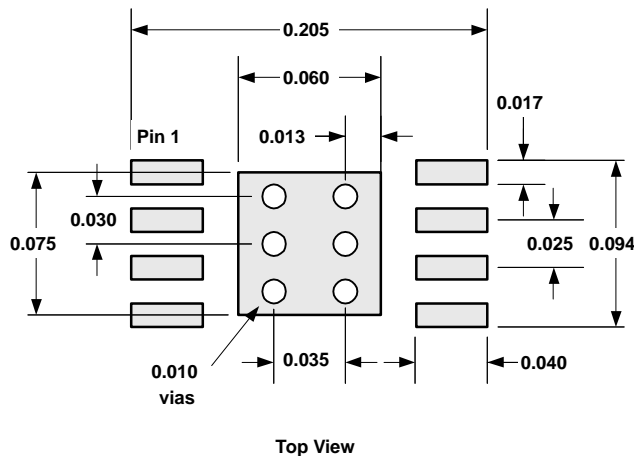

Figure 64. DGN PowerPAD PCB Etch and Via Pattern
1. PCB with a top side etch pattern as shown in Figure 64. There should be etch for the leads as well as etch for the thermal pad.